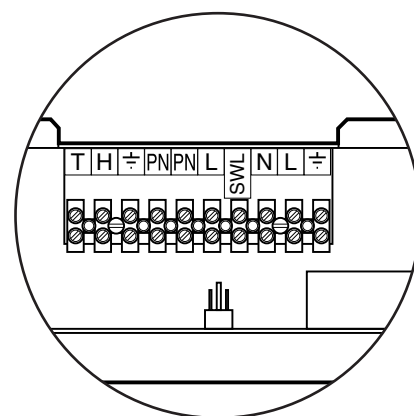

Fig. 17
6. Connect live, neutral, earth, and switched live to L, N,  $\varnothing$  & SL of the terminal strip. The pump live, neutral and earth should be connected to PL, PN &  $\varnothing$  of the terminal strip (Fig. 17).